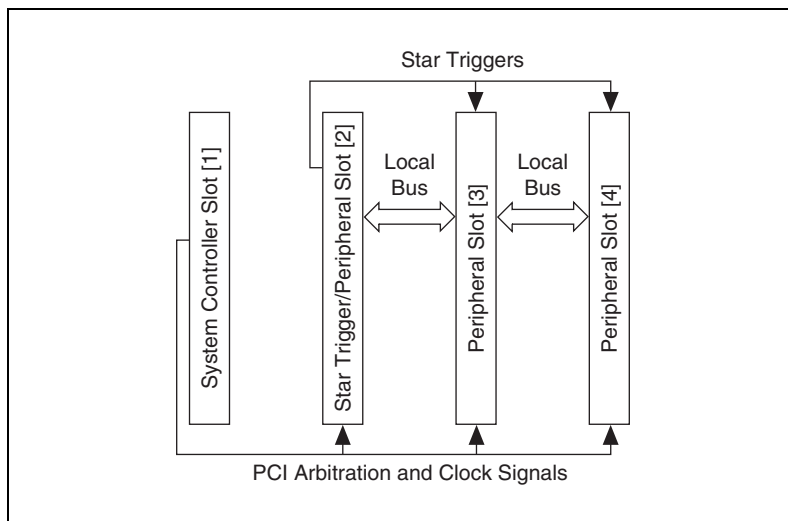

Figure 1-5. PXI Star Trigger and Local Bus Routing
The star trigger (ST) slot is slot 2. This slot has dedicated equal-length trigger lines between slot 2 and peripheral slots 3 and 4 (refer to Figure 1-5). Slot 2 is intended for modules with ST functionality that can provide individual triggers to all other peripheral modules. However, if you do not require advanced trigger functionality, you can install any standard peripheral module in this slot.
The PXI backplane local bus is a daisy-chained bus that connects each peripheral slot with adjacent peripheral slots to the left and right (refer to Figure 1-5). For example, the right local bus of slot 2 connects to the left local bus of slot 3, and so on.